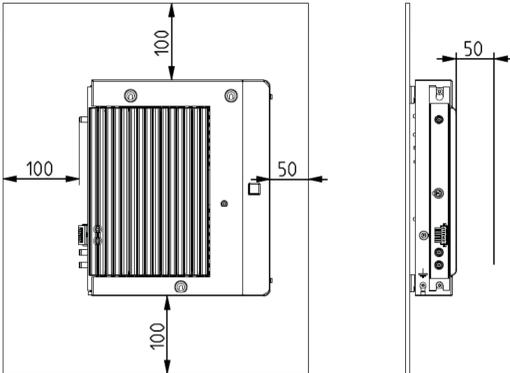

Fig. 1: Clearances to containing surfaces
2. Choose the mounting location with regard to the minimum clearances to avoid a build-up of heat; see Fig. 1.